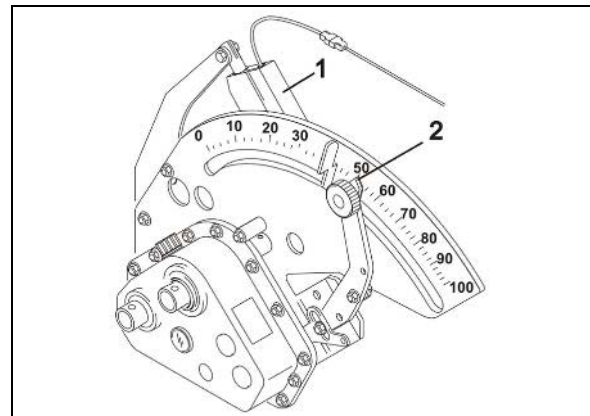

Fig. 25
- the gearbox setting lever (Fig. 25/2) is manually adjusted. The higher the scale figure is, the bigger the seed rate will be.
- the setting motorstellt (Fig. 25/1) adjusts the gearbox setting lever I (Fig. 25/2) (option).